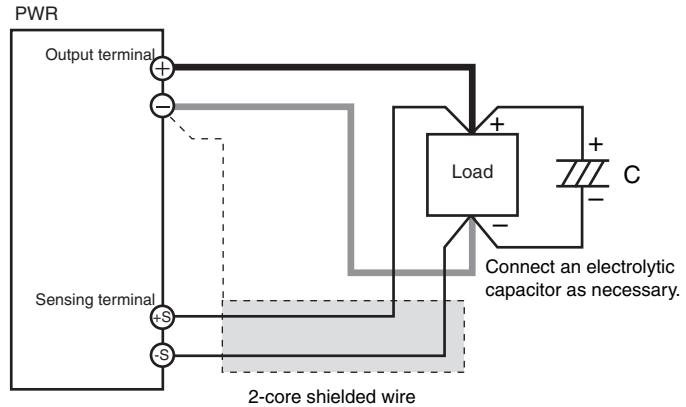

Fig. 4-15 Remote sensing connection
- 3 As shown in Fig. 4-15, connect the sensing cable between the sensing terminal and the load terminal.